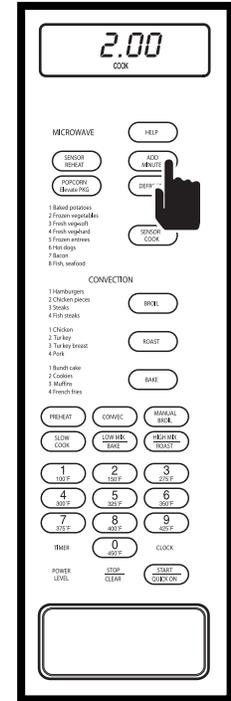

Figure 3-34.
2. If the microwave is already running in Time Cook Mode or Defrost Mode and the ADD MINUTE key is pressed, one minute will be added to the cooking time for every key stroke of the ADD MINUTE key (See Figure 3-34). At end of cooking time, “END” will flash on display and alarm will beep.